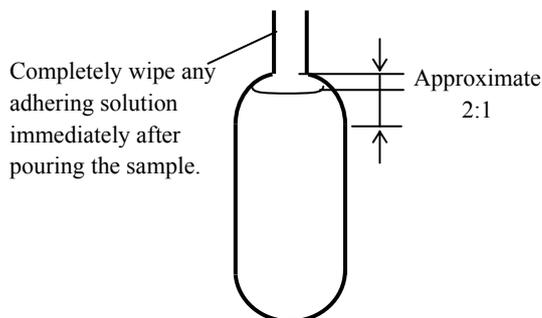

Fig. 5 Appropriate sample volume
- 1) Pour a sample up to the line shown in Figure 5. If a larger amount is poured, the tube will tend to be sealed incompletely, and if smaller, the centrifuge tube will be deformed by the pressure due to the centrifugal force, also causing imbalance.